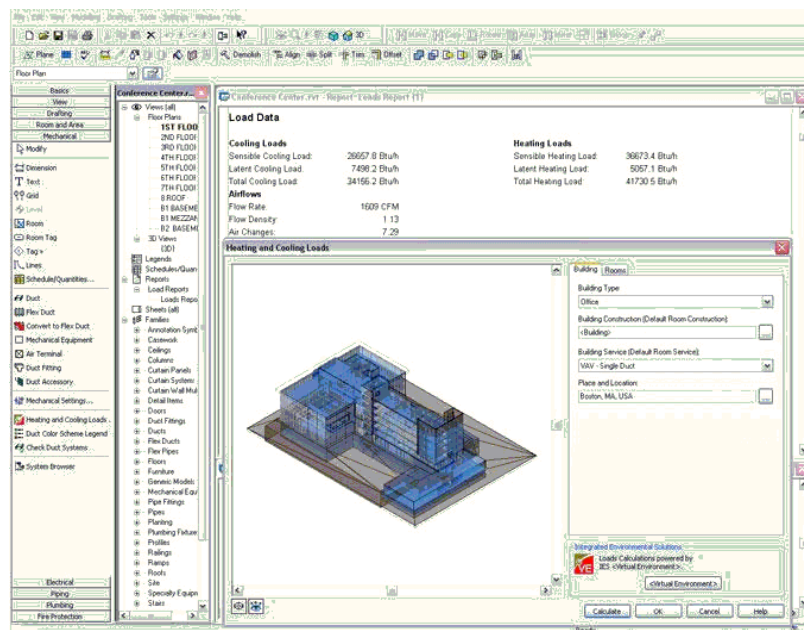

Fig 2:-Revit MEP shows the heating and cooling load calculator from IES Virtual Environment running within the Revit application.
3) Revit MEP Links to IES⁹:- Revit MEP combined with the IES can calculate heating and cooling loads directly using an IES engine. IES's Virtual Environment is an integrated performance modeling package that models energy use, day lighting, computational fluid dynamics (CFD), and other attributes based on a single shared model of the building. Revit MEP in combination with a virtual environment toolkit can perform additional complex and sophisticated analyses of building models as shown in Figure 2.